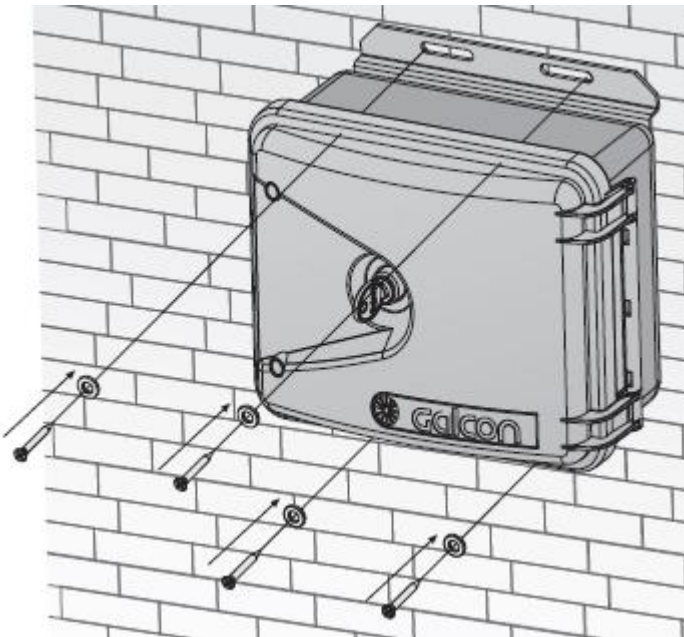

Figure 9: Affixing the Unit to a Wall
- ☀ Affix the unit to any vertical surface by means of screws, inserted through the holes in the aluminum plate at the back of the unit box (Figure 9).